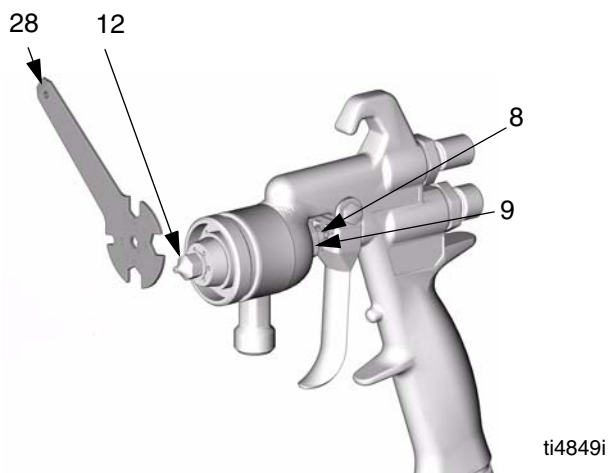

FIG. 41
- Tighten the packing screw (8) by turning the screw in until it touches the fluid packings, then tighten one full turn to pre-set the packings. Loosen the screw, then turn it in until it touches the packings again. Tighten the screw 1/12 turn more (equal to half the distance between points on the hex head). See FIG. 41.
- Trigger the gun to test the needle movement. If the needle does not return after the trigger is released or is slow in returning, loosen the packing screw (8) until the needle returns freely.
- Replace seal (15B). Install the air cap (14), air cap retaining ring (15A), and seal (15B). Hand-tighten the ring.